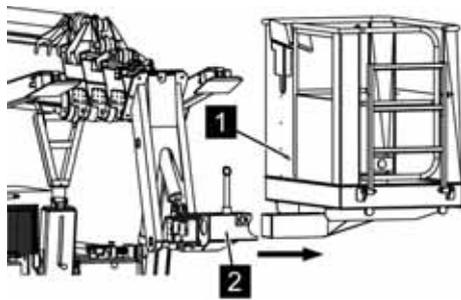

Fig. 85: Removing the working basket
6. ➤ Lift the working basket (Fig. 85/1) slightly and pull it out of the bracket (Fig. 85/2).